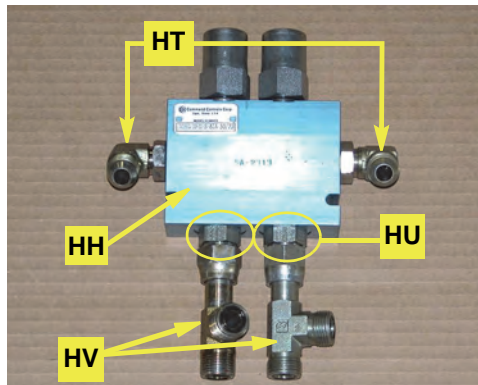

Figure 4a: Prepared counterbalance valve
a. Prepare counterbalance valve **HH** by installing adapter fittings as follows (Figure 4a):